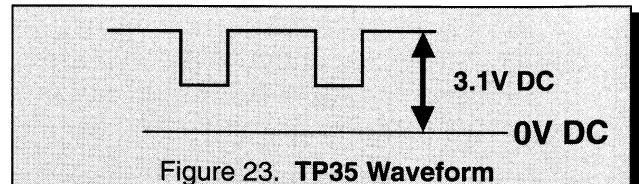

Figure 23. TP35 Waveform
- Observe the oscilloscope waveform at Horizontal rate and adjust the Serviceman Mode Sub-Bright DAC (B2) level until a scanning period of **3.1V** above DC ground is measured, as indicated in Fig. 23.